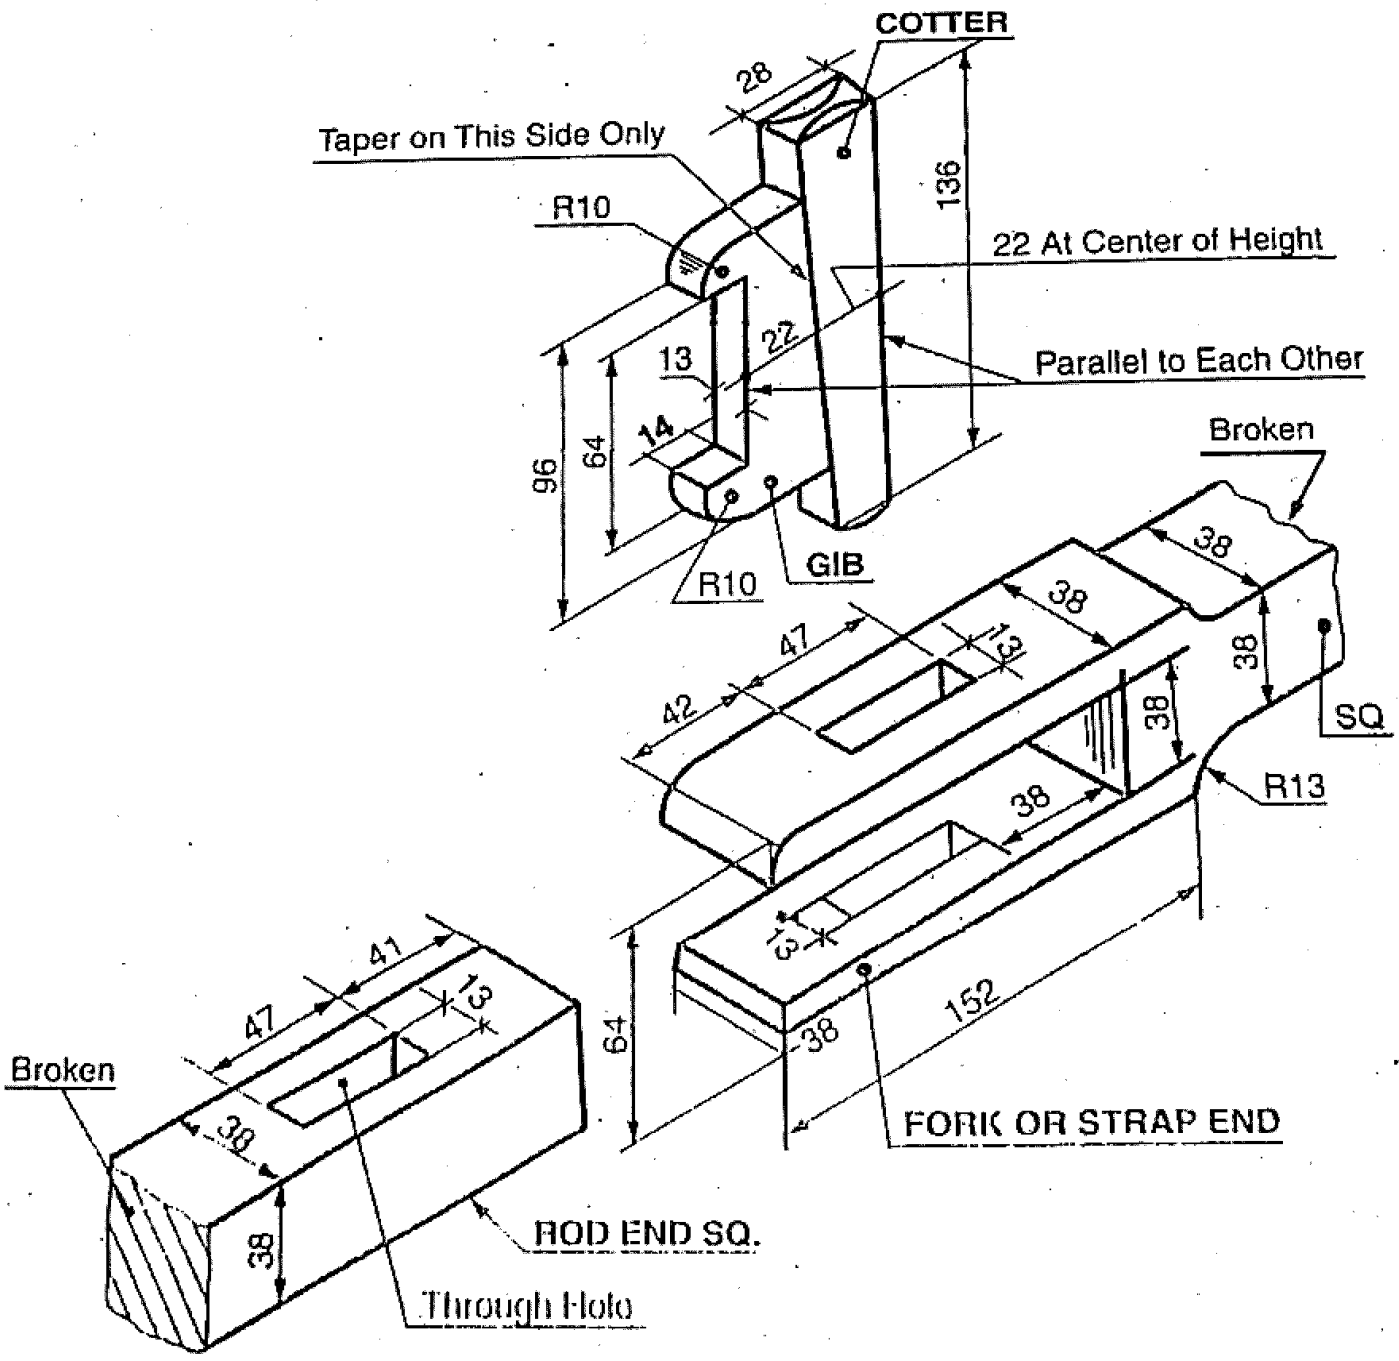

Fig. 1 Gib and Cotter for square rods (Exploded Details)
4. Fig. 1 shows the detail of Gib and Cotter joint. Draw